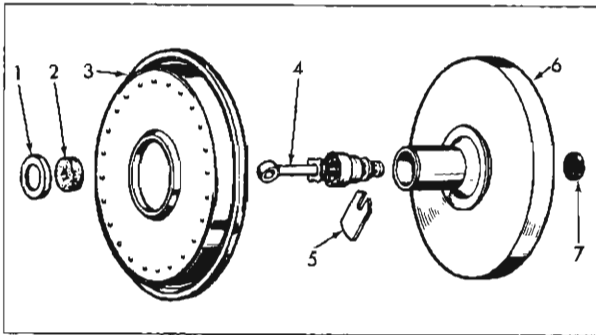

Fig. 19—Power Piston
- Disassemble power piston. (See Figure 19.)
4. Assemble the power piston assembly. (See Figure 19.)